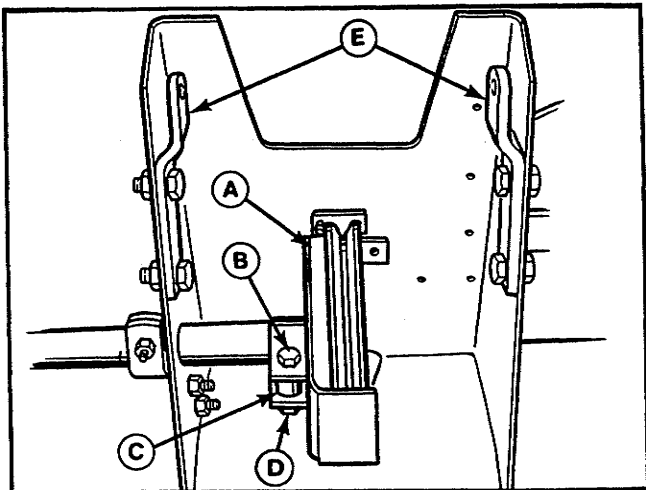
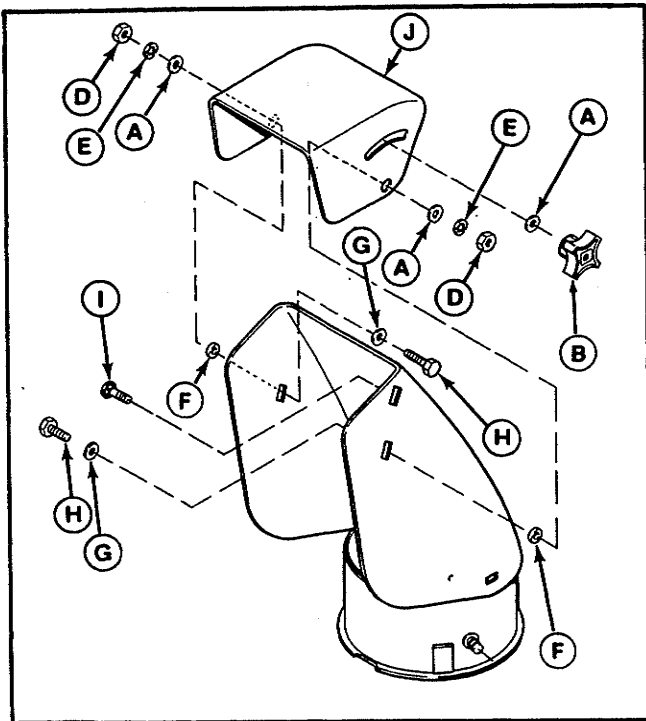

Figure 19. Belt Guide Installed
Figure 18. Installing Deflector
7. Attach the deflector (C, figure 18) to the spout extension with two screws (H), washers (G), spacers (F), washers (A), lockwashers (E) and nuts (D).
8. Position the bolt (I) and washer (A) and then thread the knob (B) onto the bolt (I).
9. Install the two clips (R and T, figure 20) with four capscrews (S) and locknuts (U) as shown. The clips are shown installed in figure 19.
10. Slip the belt onto the pulley inside the snowthrower. Install the belt guide (A, figure 19) onto the pulley. Insert the spacer (C) inside the clamp and install the capscrew (B), lockwasher and nut (D).